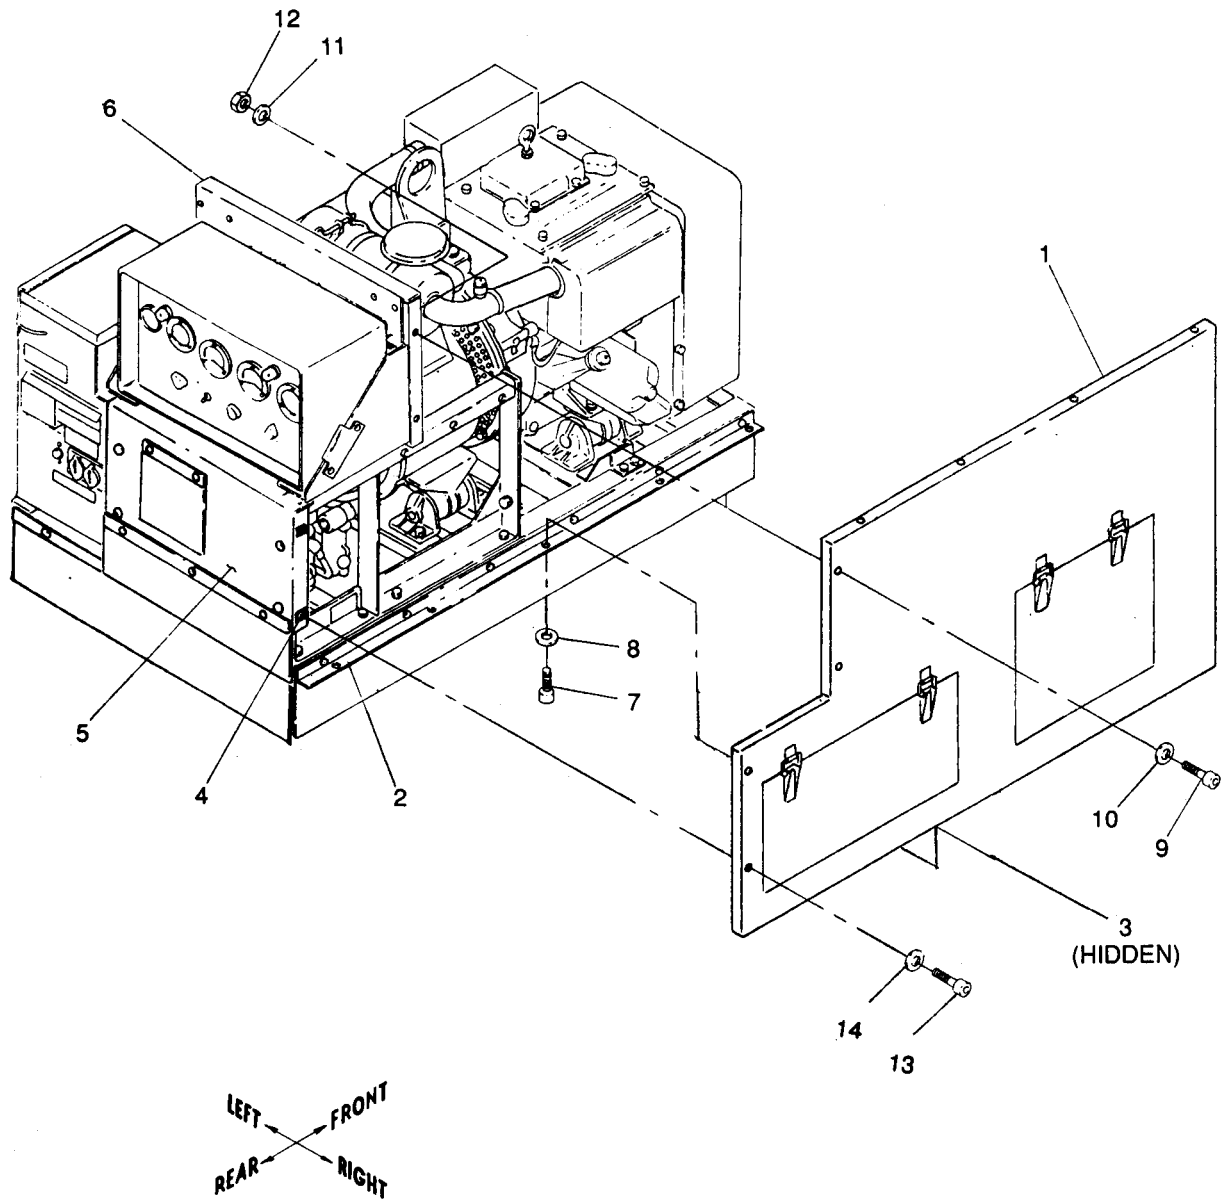

Figure 10-4. Installation of Right Panel Assembly
(1) Refer to figure 10-4 and clear out acoustic fill from holes in right panel assembly (1) using 3/8 inch diameter pin.
(2) Locate right panel assembly (1) on right support assembly (2) by aligning captive nuts (3) in right panel assembly (1) with holes in right support assembly (2). Align captive nuts (4) in rear panel assembly (5) with holes in right panel assembly (1). Align holes in rear closure assembly (6) with holes in right panel assembly (1).